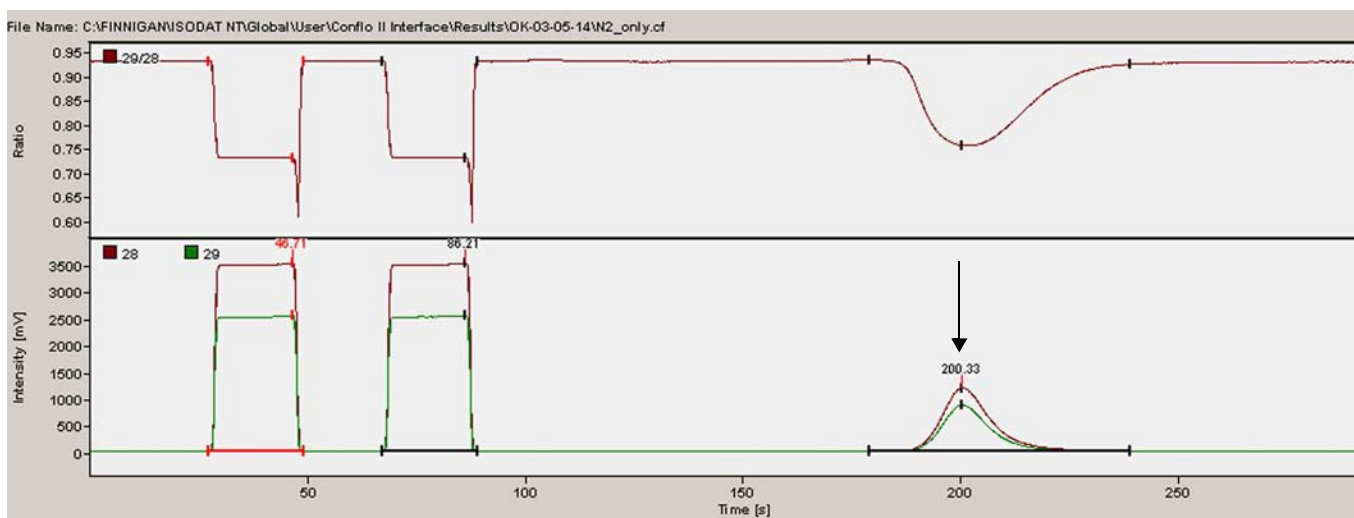

Figure 4-36. Reference measurement - chromatogram for nitrogen
2. In its Evaluation tab, type the retention time of the sample peak into the **Ref. Time** column (for example 200 s, as example for nitrogen, see Figure 4-36 or 350 s as example for sulfur).
Figure 4-36 shows the chromatogram of a reference measurement for nitrogen.